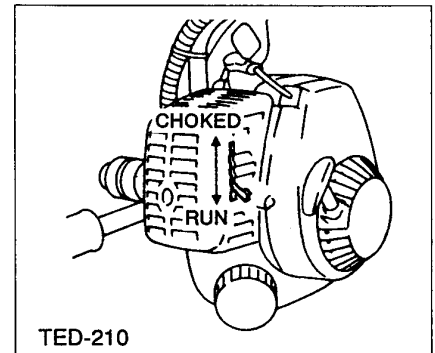

Fig. 2-3
2. Set choke lever to (CHOKED) position. (Fig. 2-3, 3B)
4. Once the engine is running, move the choke to the run-position. (Fig. 2-3, 3B)